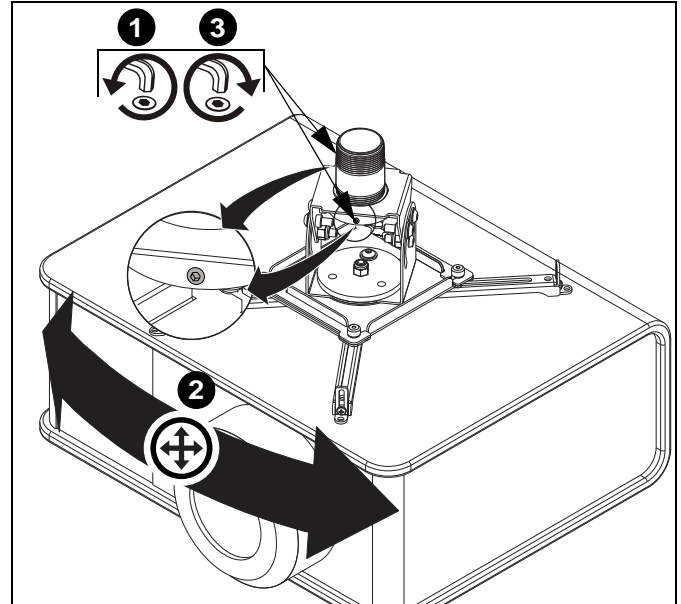

Figure 10
1. Loosen two yaw adjustment set screws. (See Figure 10)
3. Tighten two yaw adjustment locking screws. (See Figure 10)